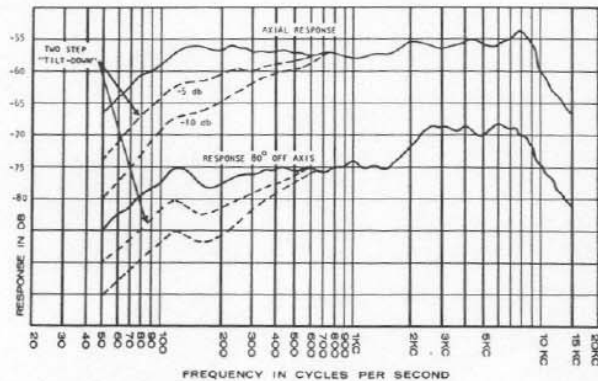

Figure 1 – Frequency Response
A 3-position bass tilt-down switch provides for adjustment of the low-frequency response of the Model 674 so that the microphone performance can be adapted to the specific environment. Rooms with relatively large volume usually tend to produce some accentuation of the lower frequencies. Attenuation of the low-frequency response of the microphone, which is afforded by the tilt-down switch, results in a more nearly “flat” sound from the total system, and a reduction of the tendency toward feedback. The 3-position bass tilt-down utilizes a slide switch recessed in the rear top of the case just behind the black slotted “CV-D” port. Switch position may be changed by inserting the point of a pencil and pushing gently toward desired position. As shown in Figure 1, response in “0” position is essentially flat, while positions “5” and “10” provide 5 dB or 10 dB attenuation at 100 Hz with uniform rise to approximately 800 Hz.
- Frequency Response: Uniform, 60–15,000 Hz (Figure 1)